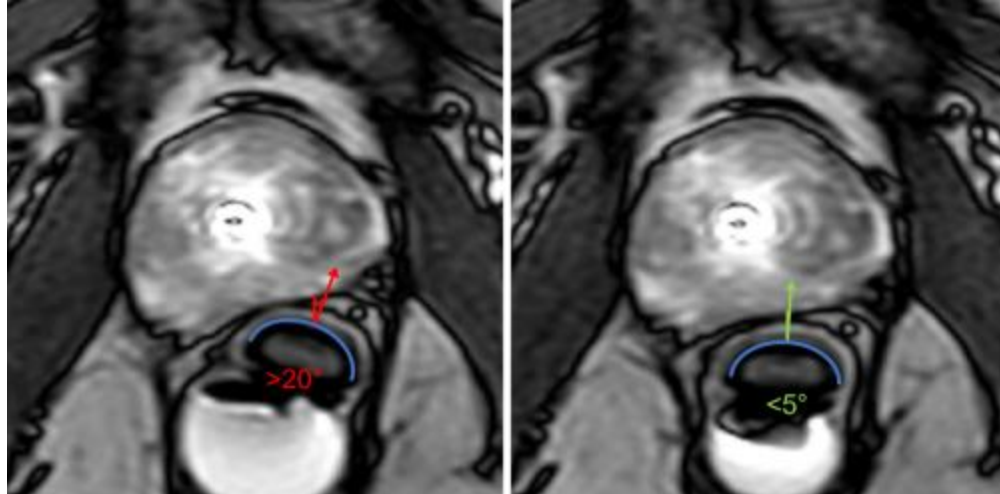

Figure 32: Axial images depicting ECD oriented incorrectly (left, rotated more than 20 degrees) and correctly (right, facing up towards the prostate)
- b. The orientation of the cooling window should face the prostate (anterior), as confirmed on the axial MRI (*Figure 32*).